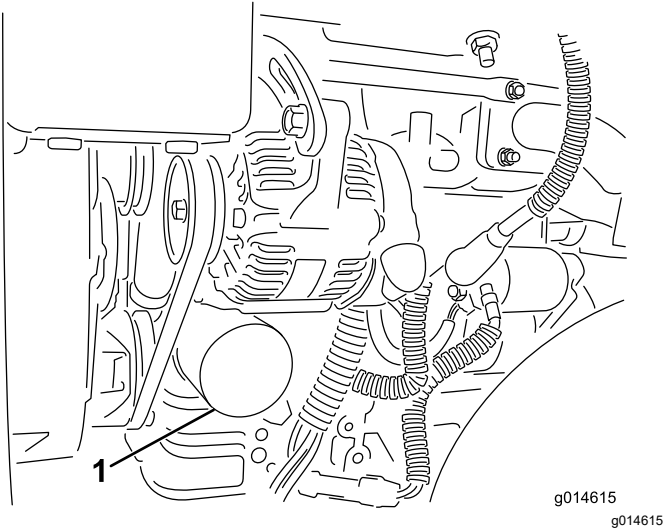

Figure 32
2. Remove the oil filter (Figure 32). Apply a light coat of clean oil to the new filter gasket.